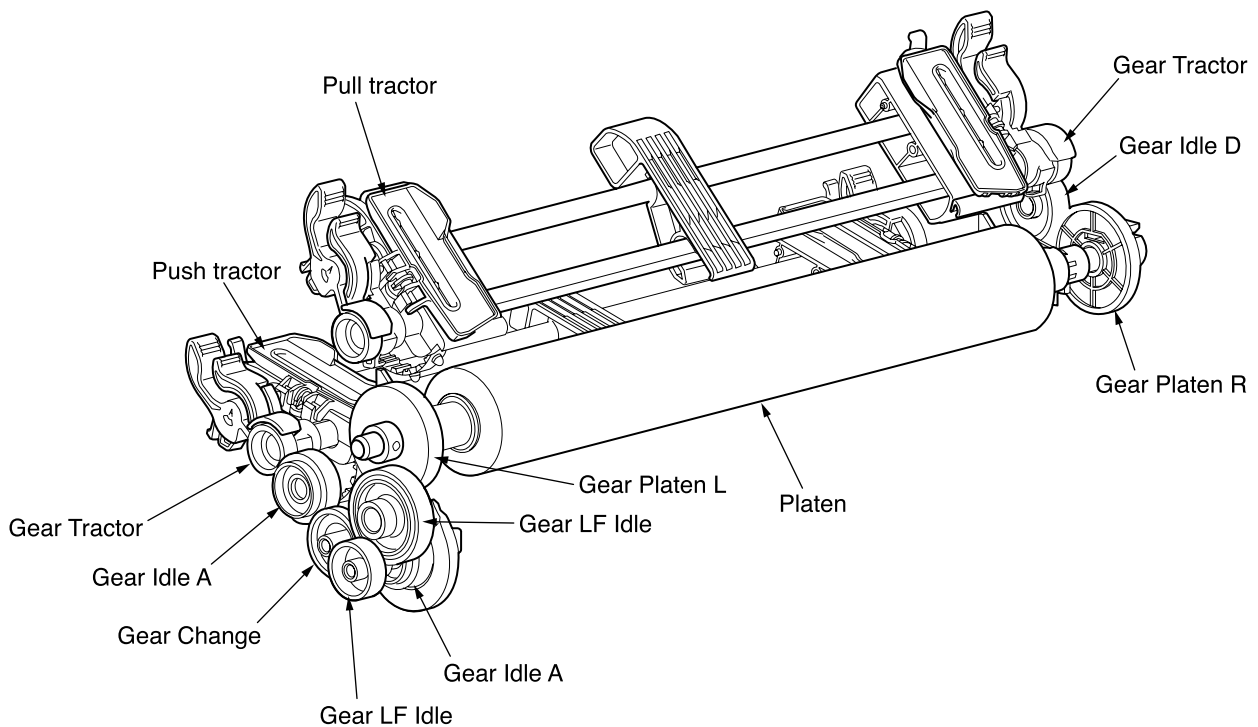

Figure 2-13
(7) Push and pull tractor mechanism (Option) (See Figure 2-13)